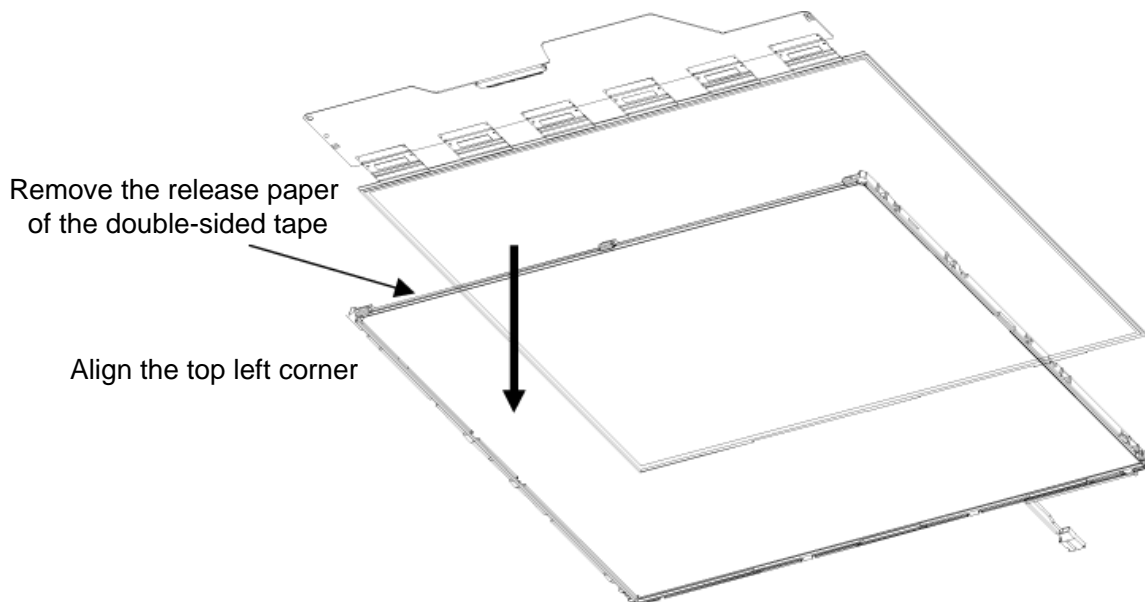

Figure 4-59 Replacing 14.1 Inch TMD fluorescent lamp (SXGA+) (7)
CAUTION: (1) Align the top left corner of the cell with the corresponding corner of the backlight unit, as indicated in Figure 4-59.
(2) Be careful not to damage the TAB.